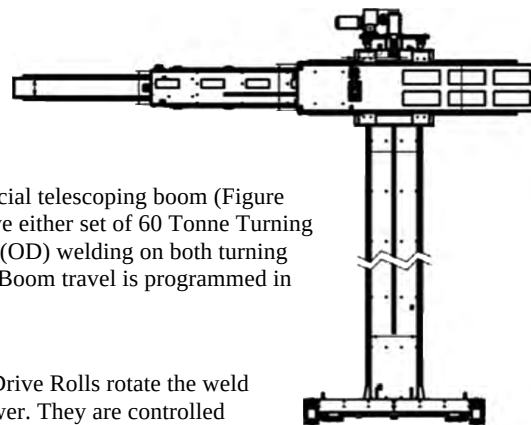

Figure 3.1
The welding equipment is positioned using a column and boom manipulator, with a special telescoping boom (Figure 3.1). The manipulator is mounted on a motorized travel cart to position the CBMX above either set of 60 Tonne Turning Rolls. The CBMX provides motion to support Inner Diameter (ID) and Outer Diameter (OD) welding on both turning roll lines. A remote pendant is provided for travel cart motion, and the Boom up/down. Boom travel is programmed in the weld programs, and can be jogged from the XM Controller Joystick.